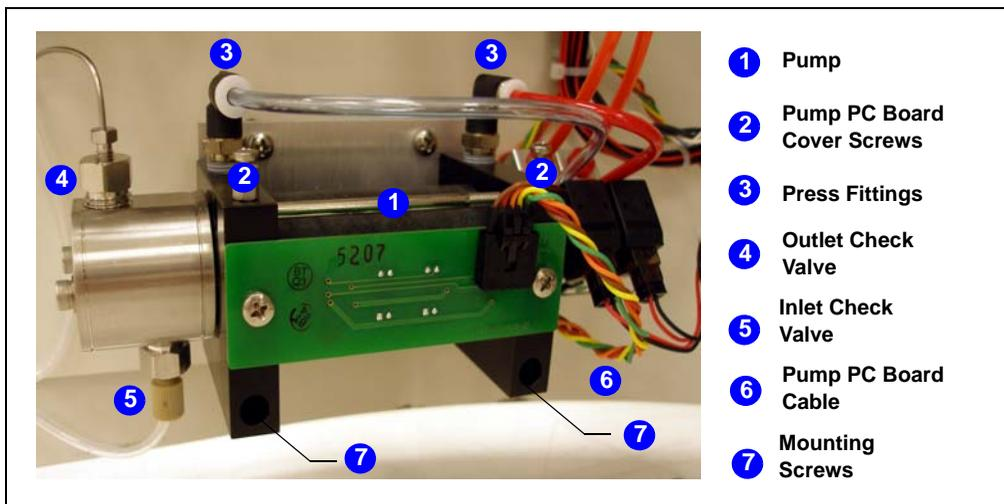

Figure 5-5. Dionex ASE 350 Pump (Shown with PC Board Cover Removed)
4. The pump is installed near the bottom of the component mounting panel on the inside of the door (see Figure 5-5, **1**).